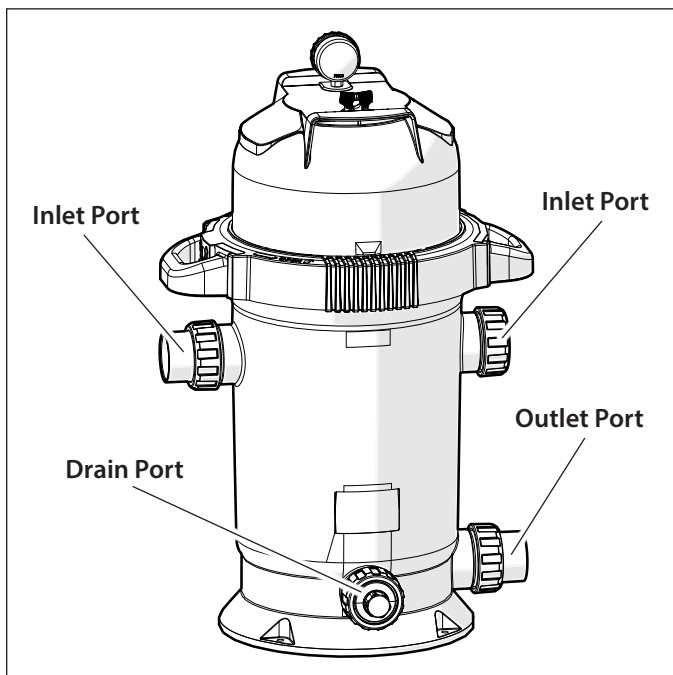

Figure 4. Filter Ports
4. The XC-series filter has four ports in total - two inlet ports (from pump), one outlet port (to pool/spa) and one drain port (*Figure 4*).